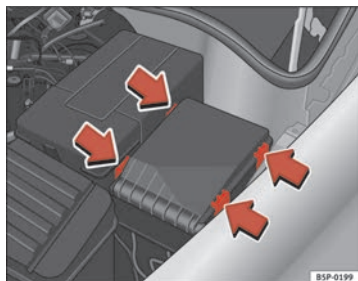

Fig. 185 Fuse box cover in engine compartment
- Remove the fuse cover in the engine compartment by pressing the tabs towards the centre of the cover ⇒ fig. 185.